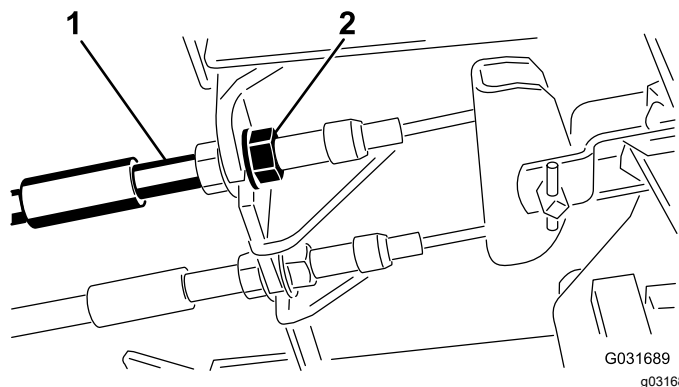

Figure 88
1. To reduce free travel of the brake pedals, tighten the brakes by loosening the front nut on the threaded end of the brake cable (Figure 88).